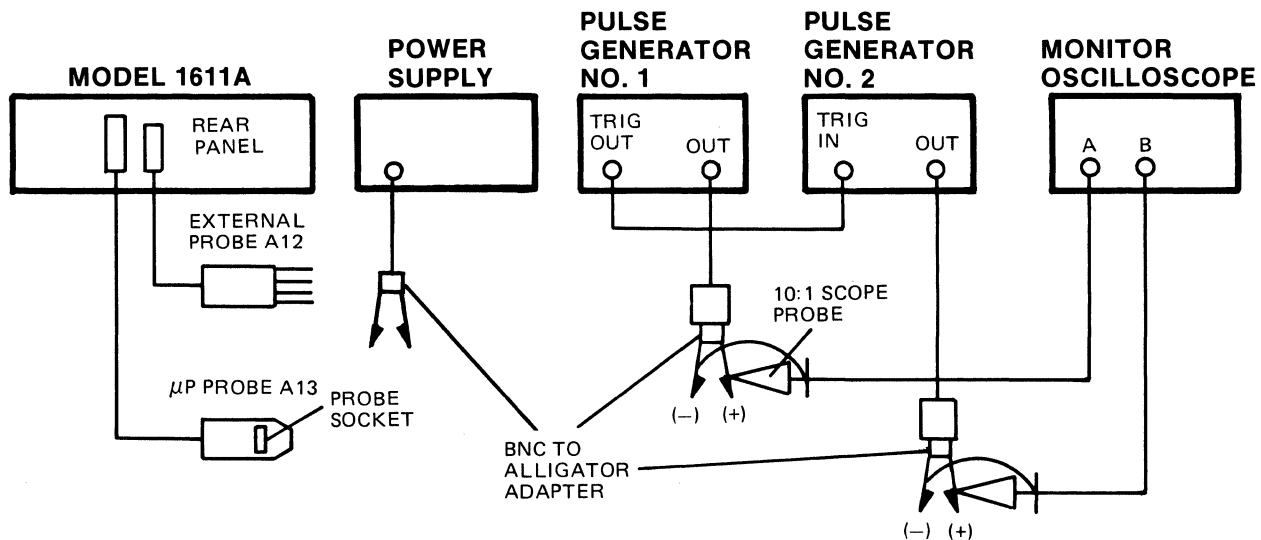

Figure 4-14. External Lines Test Setup
- Connect test equipment as shown in figure 4-14.